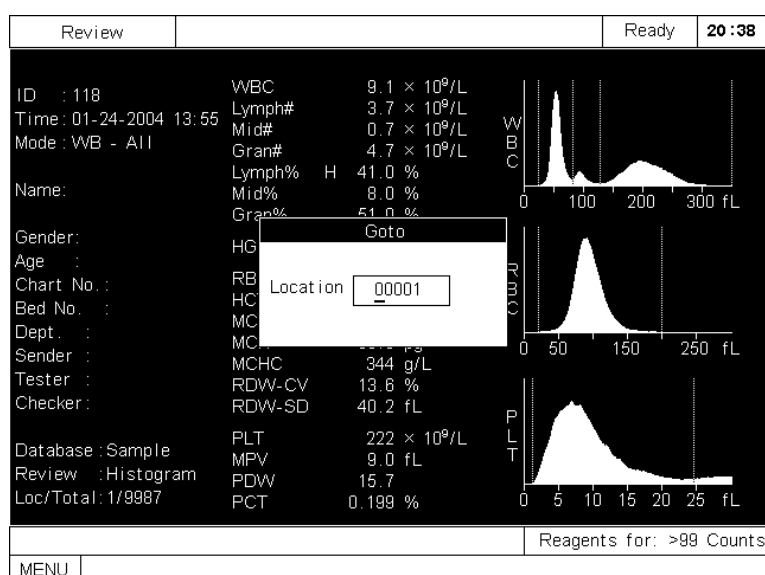

Figure 6-3 Goto screen
- Press [F1] to enter the **Goto** screen, as Figure 6-3 shows.